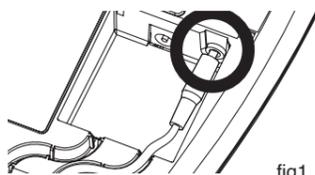

fig1
- Plug the vibrator pad connector into the strobe (as shown in fig 1). Route the wires through the wire guide.